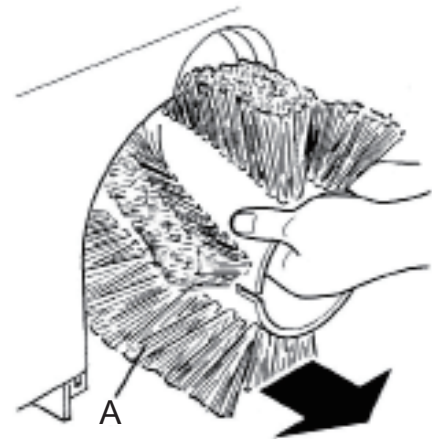

Figure4
- 6) Remove the brush (A, Fig.4)